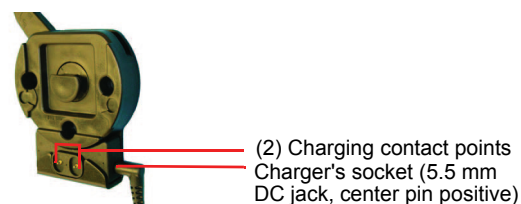

Figure 7
- a. *Vehicle Mounted Printers:* If you mounted your charger swivel lock bracket to a vehicle, connect your vehicle's cigarette adapter plug to the swivel lock charger's socket (Figure 7).
- b. *Stationary Mounted Printers:* If you mounted your charger swivel lock bracket to a stationary surface, connect your wall adapter's plug to the swivel lock charger's socket (Figure 7).